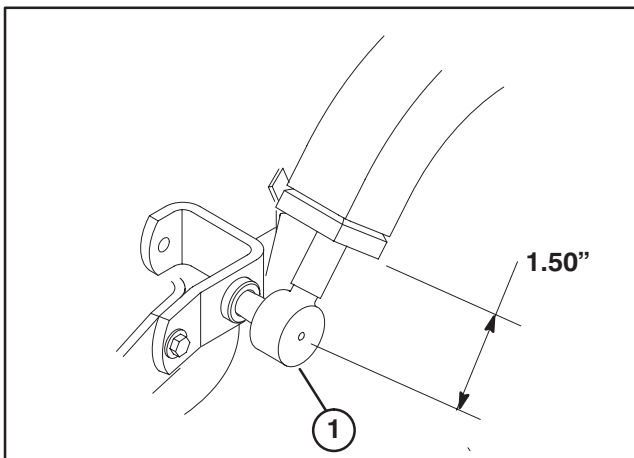
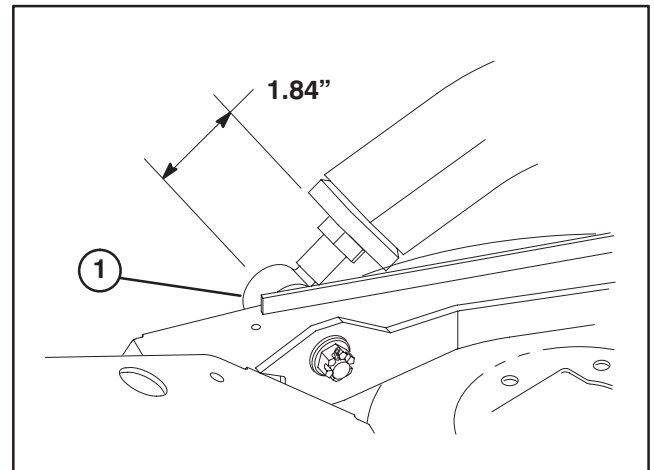

Figure 1
Figure 2
VERIFY LIFT ARM BALL JOINT ADJUSTMENT (Fig. 1 & 2)
1. Lift arm ball joints have been adjusted at the factory. The proper setting of left hand ball joint is 1.50" from end of lift arm to center of tapered stud (Fig. 1). The proper setting of right hand ball joint is 1.84" from end of lift arm to center of tapered stud (Fig. 2). These distances can be adjusted if deck alignment to traction unit is off or if the deck rubs against traction tires.